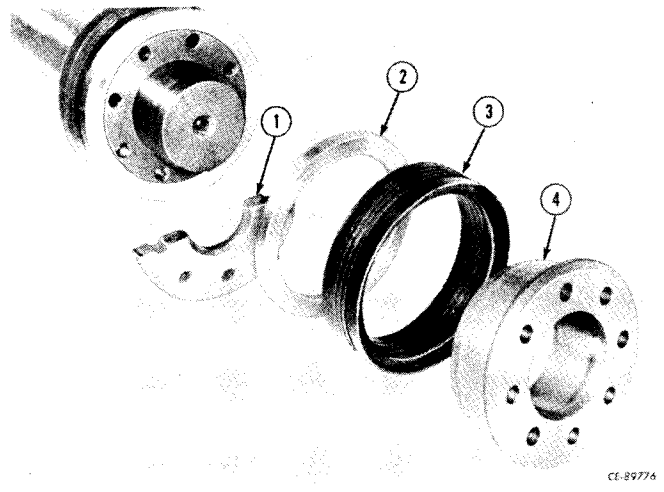

Figure 11-97
Remove and discard the used piston packing (3, Fig. 11-97).
Carefully install the piston half with threaded holes, on rod. Do not damage "O" rings. Install one half of packing set (3, Fig. 11-97) with open end of "V" facing lip on piston half. Install a bushing (2) on piston against the packing. Install remaining half of packing set on piston with smooth bore holes. Open end of "V" must face lip of piston half. Install a bushing (2) on piston against packing. Start the remaining piston half on the rod. Do not damage the "O" ring. Insert one section of lock ring (1) between piston halves and start one of the piston cap screws. Position remaining half of lock ring and install balance of piston cap screws. Refer to torque specifications for correct torque. Safety wire cap screws in pairs.